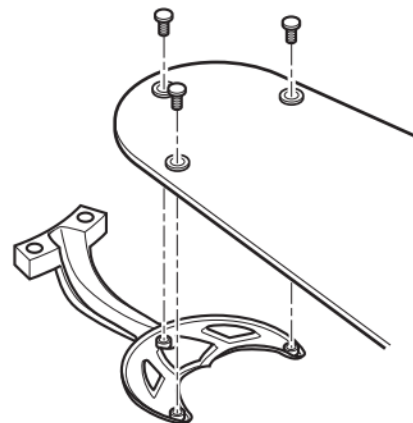
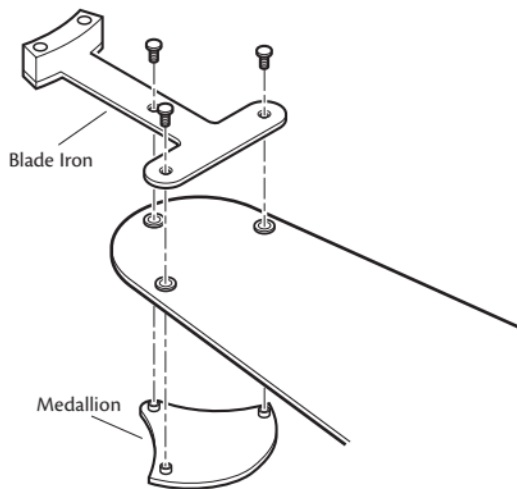

Figure 23 - Attaching the blade to the blade iron
Figure 24 - Attaching the blade to the blade iron and medallion
2. Attach each blade to blade iron using three blade assembly screws as shown in Figure 23. Some fans feature a decorative medallion as well as a blade iron. Insert the assembly screws into the blade iron, through the blade and into the medallion, with the blade sandwiched between the blade iron and medallion as shown in Figure 24.